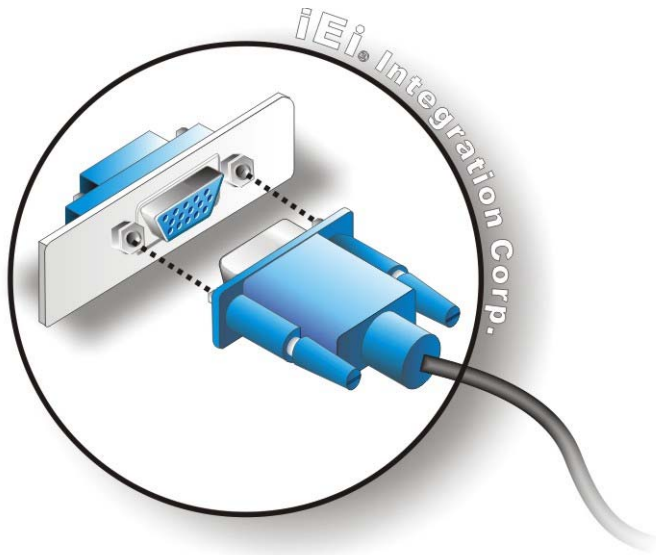

Figure 4-25: VGA Connector
- Step 3: Insert the VGA connector** Once the connectors are properly aligned with the insert the male connector from the VGA screen into the female connector on the IMBA-Q870-i2. See **Figure 4-25**.